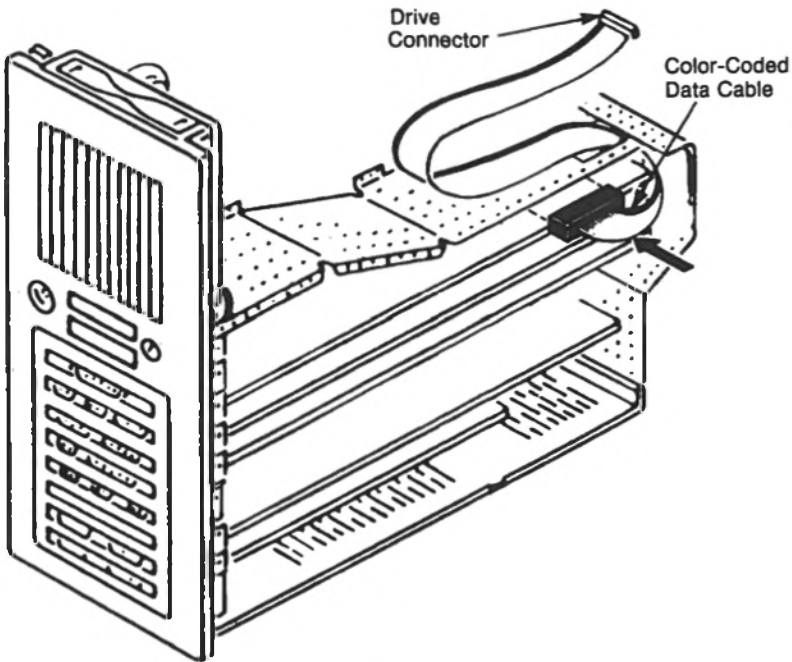

Figure 3-35 Cable Placement
**NOTE:** Remember to place the end connector of the data cable on the flexible disk drive with the resistor pack. Position the data cable so that the cable will not be crimped when the drive is installed completely (see Figure 3-35).